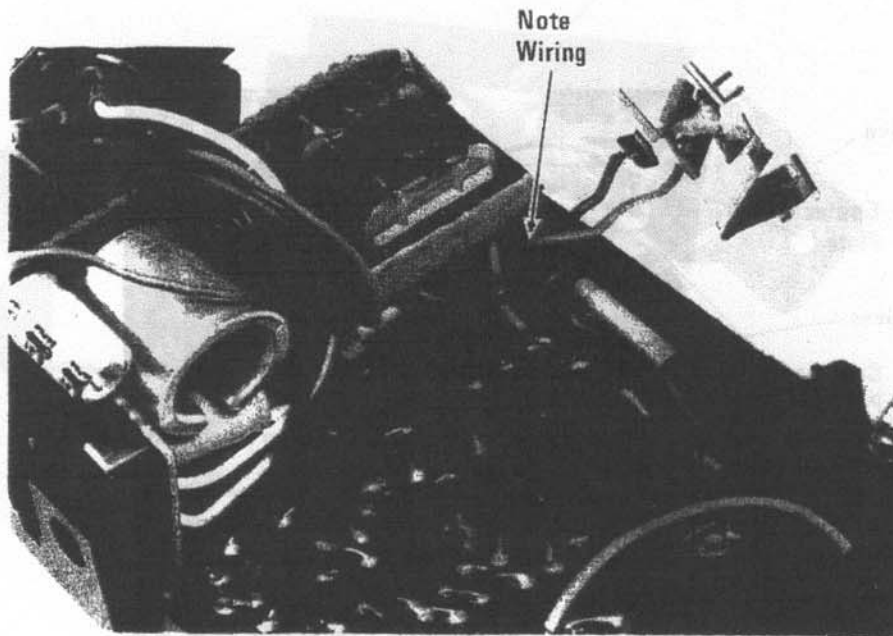

Figure 3-20. Installing PC Boards B and C
D. When replacing PC boards B and C, make certain that wires have not been pinched between the boards and the case before installing screws. Fig. 3-20.